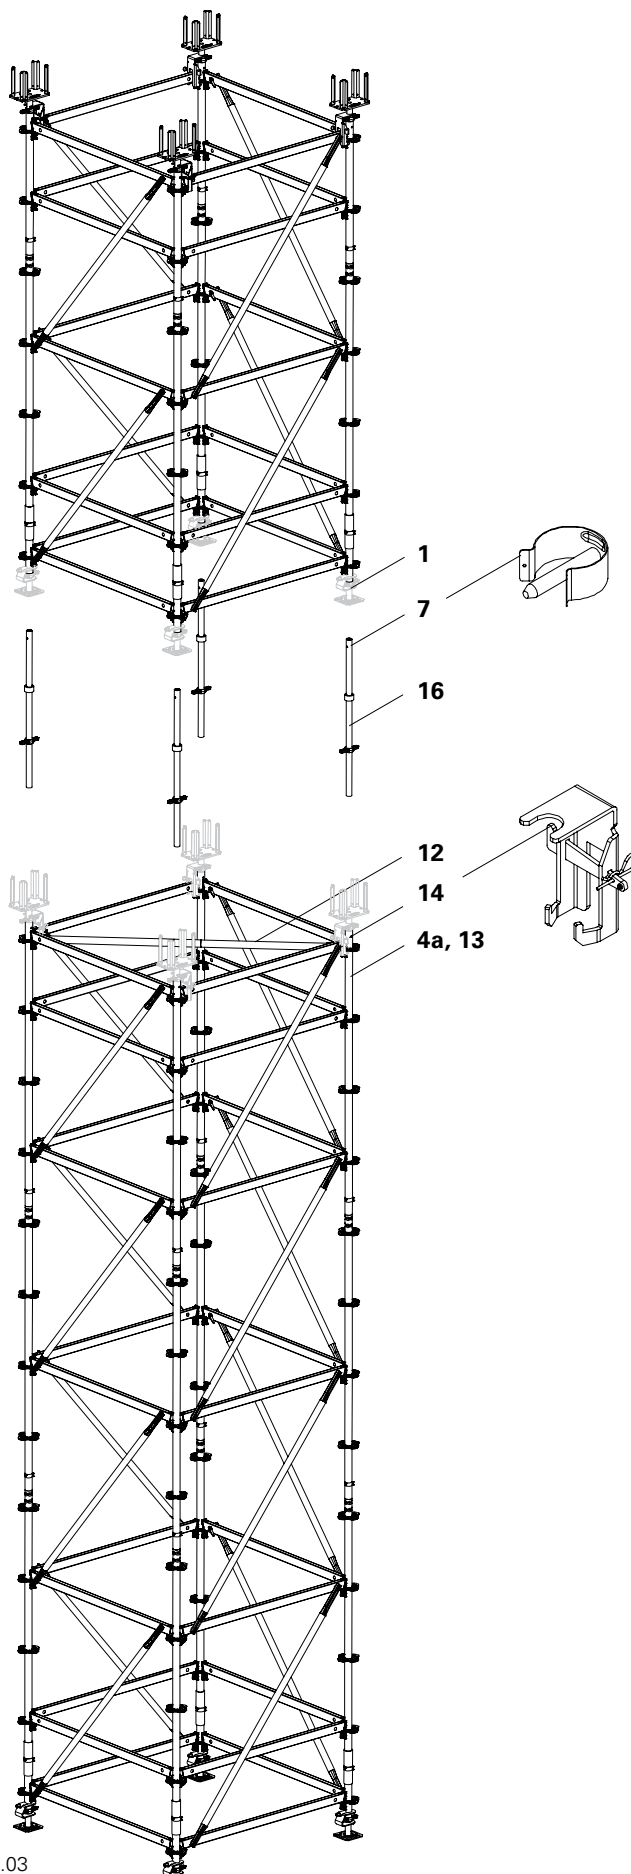

Fig. B1.03
2. Insert Section Spindles UJK (16) into the Head Standards UVH and adjust the height.
4. Secure top Section Spindles UJK by means of locking pins (7). Secure bottom Section Spindles UJK using Head Spindle Locking Devices UJH (14).
5. Mount Horizontal Brace UBH (12) and secure with hammer blows.
- Fig. B1.03